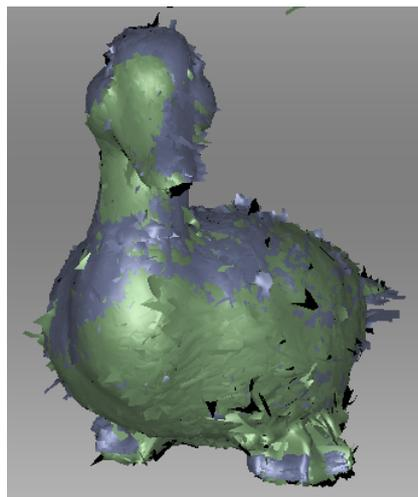

Figure 79: "Drag" alignment result
3. To confirm the alignment, release the mouse button(s) and the `Shift` key, then click *Apply*. Note carefully that any scans you are registering won't automatically move to the registered set  (see Figure 79). You can do so manually as the *Changing Object Status* describes.